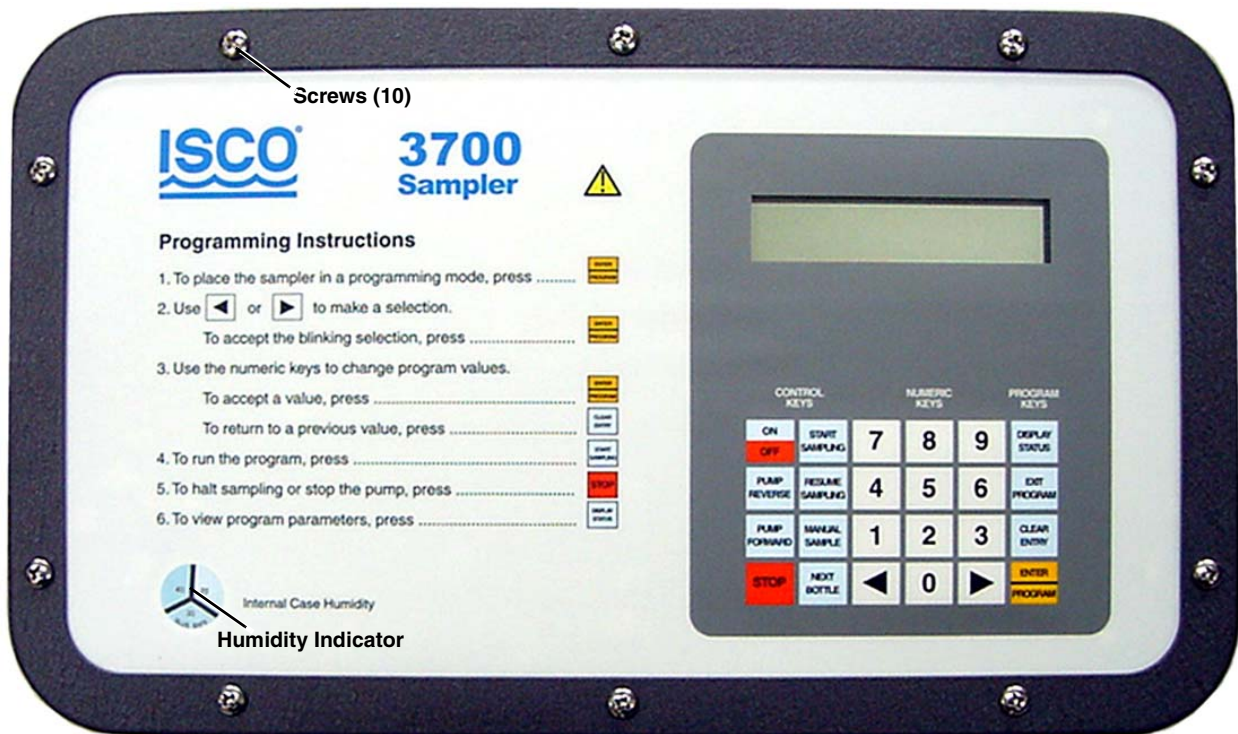

Figure 5-4 Location of 10 Screws on Control Box Lid
If the 30% area of the humidity indicator turns light pink or white, open the control unit, inspect it for leaks, and renew the desiccant. To do so, unscrew the 10 screws (indicated in Figure 5-4) around the outer rim of the control box bezel, and carefully lift the bezel and cover off the control box.
2. Remove the 10 screws around the outer edge of the control-box lid, as indicated in Figure 5-4.